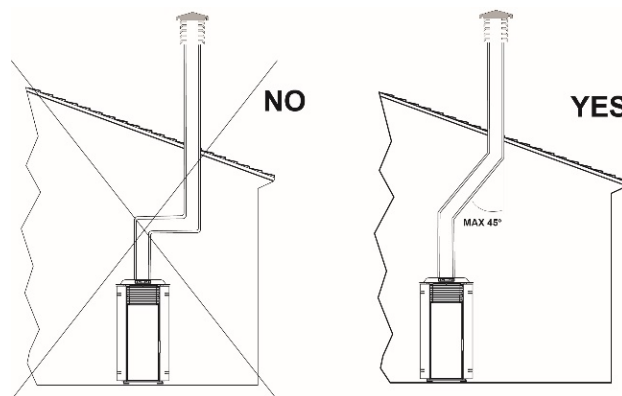

Fig.2
- The internal section must be uniform, preferably circular: the square or rectangular sections must have rounded corners with a radius of no less than 20 mm, maximum ratio between the sides of 1.5, walls as smooth as possible and without restrictions, curves must be regular and seamless, deviations from the axis no greater than 45° (Fig. 2).